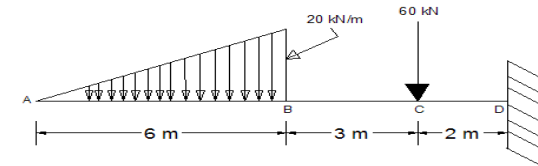
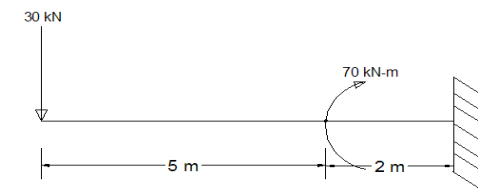

Fig.3
Fig.4
4. Draw the SFD and BMD of the following beams shown in Fig.3 and Fig.4.